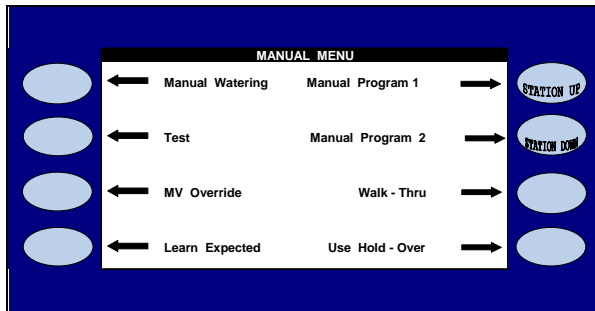

Figure 14
19.  Press the **MANUAL** Menu key. This will take you to the MANUAL IRRIGATION screen (Figure 14).